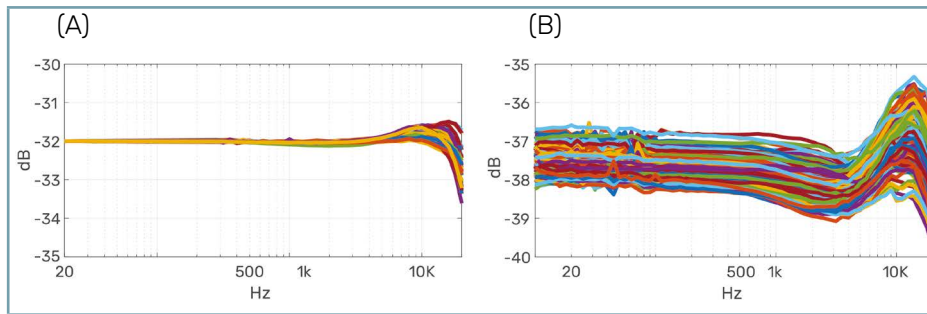
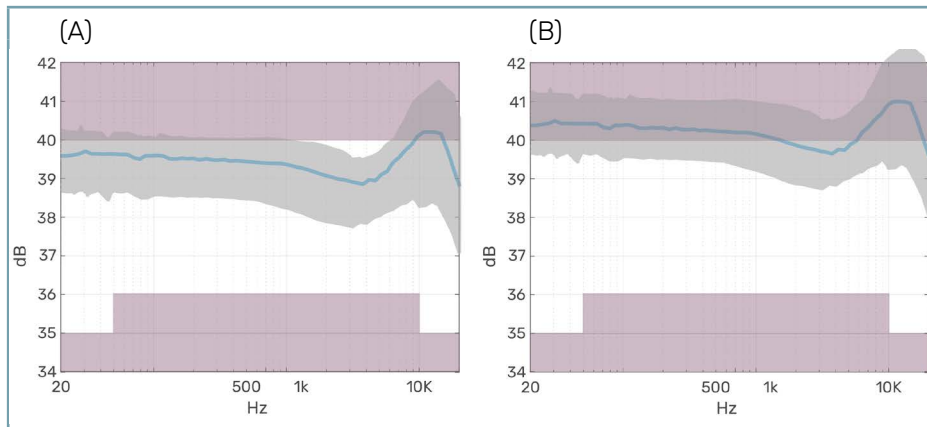

FIGURE 2.
FIGURE 4.
EQset microphones have a uniformly fixed sensitivity (25 mv/Pa (-32.04 dB re 1 v/Pa) for EQ 40PM), and the variation between individual microphones varies less than 0.2 dB from nominal sensitivity (Fig. 2). Historically, microphones used on production lines have a sensitivity spread of ± 2 dB, or greater. The fixed sensitivity of EQset microphones enables production lines to stay up and running much longer without the fear of shipping bad products.
and 10 kHz. Using a simplified example, this means that if the DUT needs to output a signal between 36 and 40 dB at a given frequency to pass, and the actual signal is 39.5 dB, the spread of results for (for example 100 microphones) will be between 37.5 and 41.5 dB, depending on which microphone in the line is used for the test, that DUT may result in a false failure. This means that good unit will need to be scrapped or recycled. Similarly, if a DUT has an actual output at 40.5 dB, the spread of results will be between 42.5 and 38.5 dB. This means that a significant number of test stations would report false passes for that unit (Fig. 4).
These graphs show a representation of how microphones with a high degree of uncertainty can result in (A) a false failure or (B) false pass. The blue line represents the actual acquired signal and the grey zones are a transparency of the spread taken from Figure 2.
These graphs show a representation of how EQ 40PM with EQset microphones reduce uncertainty and avoid (A) the false failure and (B) false pass from the example in Figure 4. The blue line represents the actual acquired signal and the grey zones are a transparency of the spread taken from Figure 2.